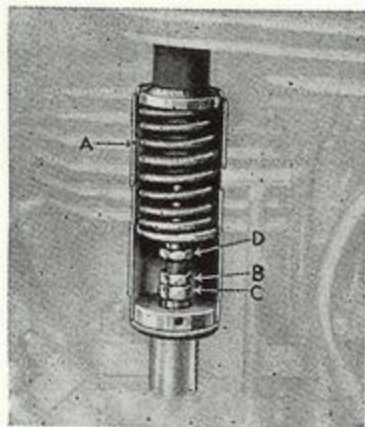

Figure 21
**Models 236, 336, 536 and 636**—If timing gears have been removed for any reason, replace according to marks. (See Fig. 21). To check timing by piston travel, tappet clearance should be .015. Reset before running motor according to instructions on this page.